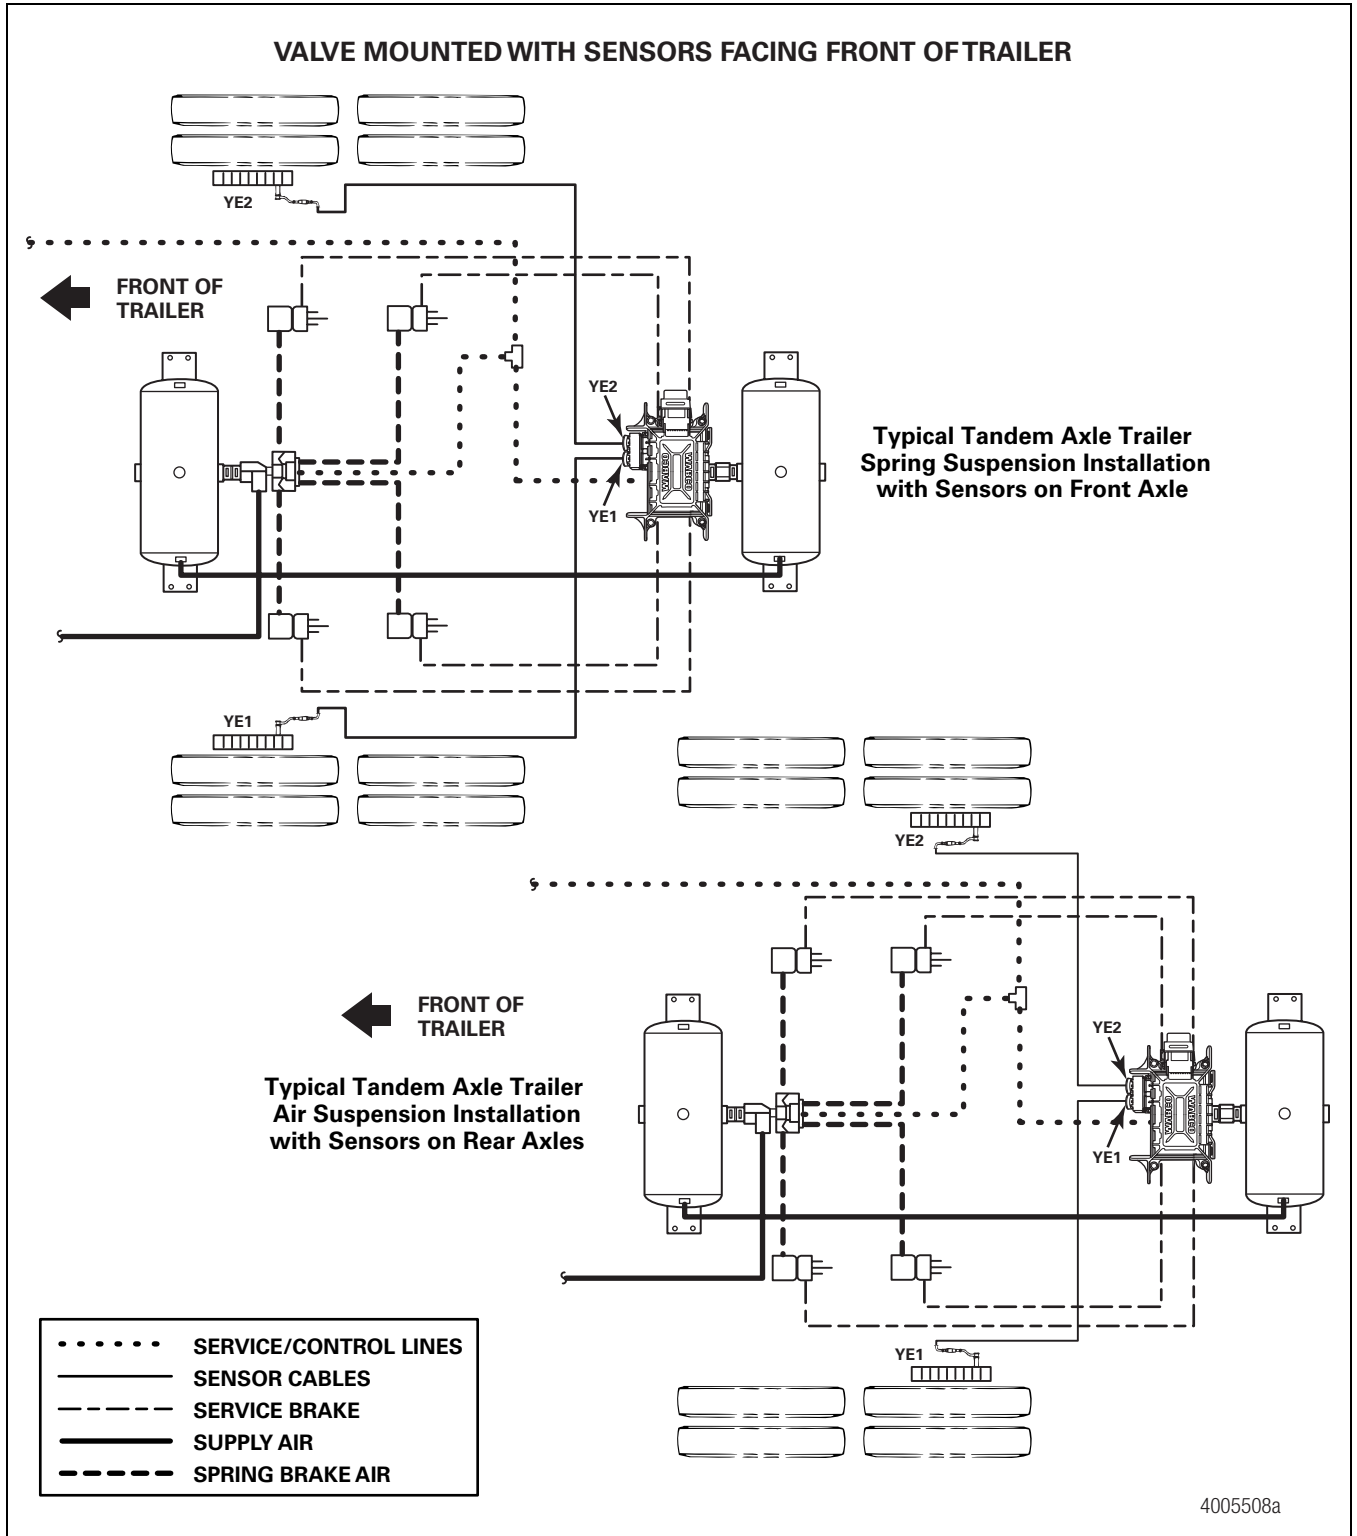

**Figure 11**
**For an optional blunt-cut power cable:** Wire the cable and ABS indicator lamp to the seven-way connector on the trailer according to the following diagram. Figure 11.